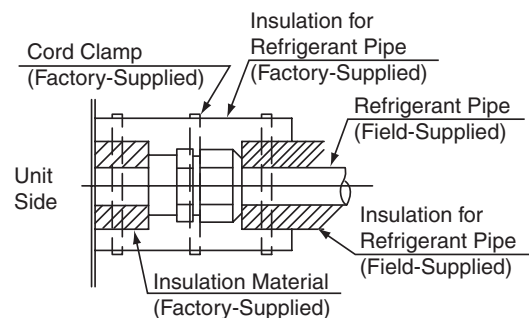

Fig. 5.4 Insulation on Pipes
- (3) After connecting the refrigerant piping, seal the refrigerant pipes by using the factory-supplied insulation material as shown in Fig. 5.4.